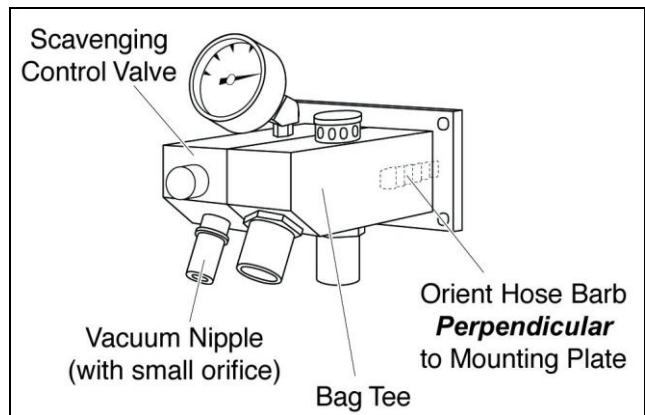

Figure 6. Flush Mounting the Bag Tee and Scavenging Control Valve.
If a scavenging control valve is to be installed, it is installed next to the bag tee. See Figure 6. The bag tee/scavenging control valve is supplied assembled to the appropriate mounting hardware.
- 1.5.1 Flush Mounting the Bag Tee/Scavenging Control Valve For flush mounting, the bag tee/scavenging control valve is supplied assembled to a mounting plate; see Figure 6.